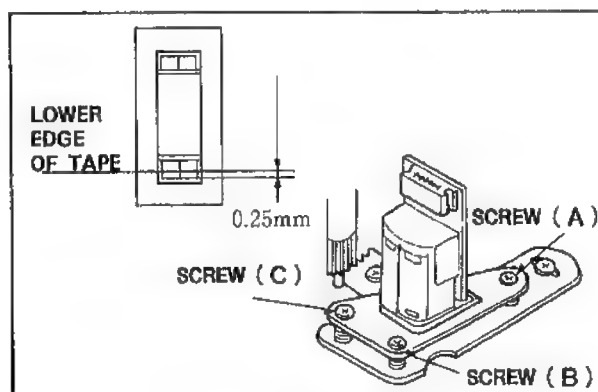

Fig.M20
2. Rotate the screw (A) as shown in Fig.M20 until the wrinkle appears on the lower edge of tape at P4 Post.
3. Rotate the screw (B) until the wrinkle just disappears on the lower edge of tape at P4 Post.